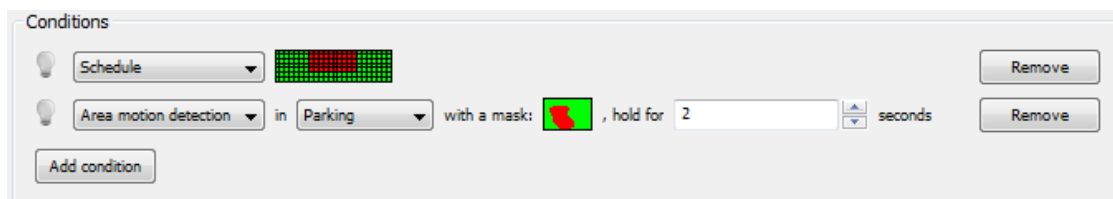

Figure 5.12: Add a Schedule-condition.
- Adding conditions (Figure 5.12):